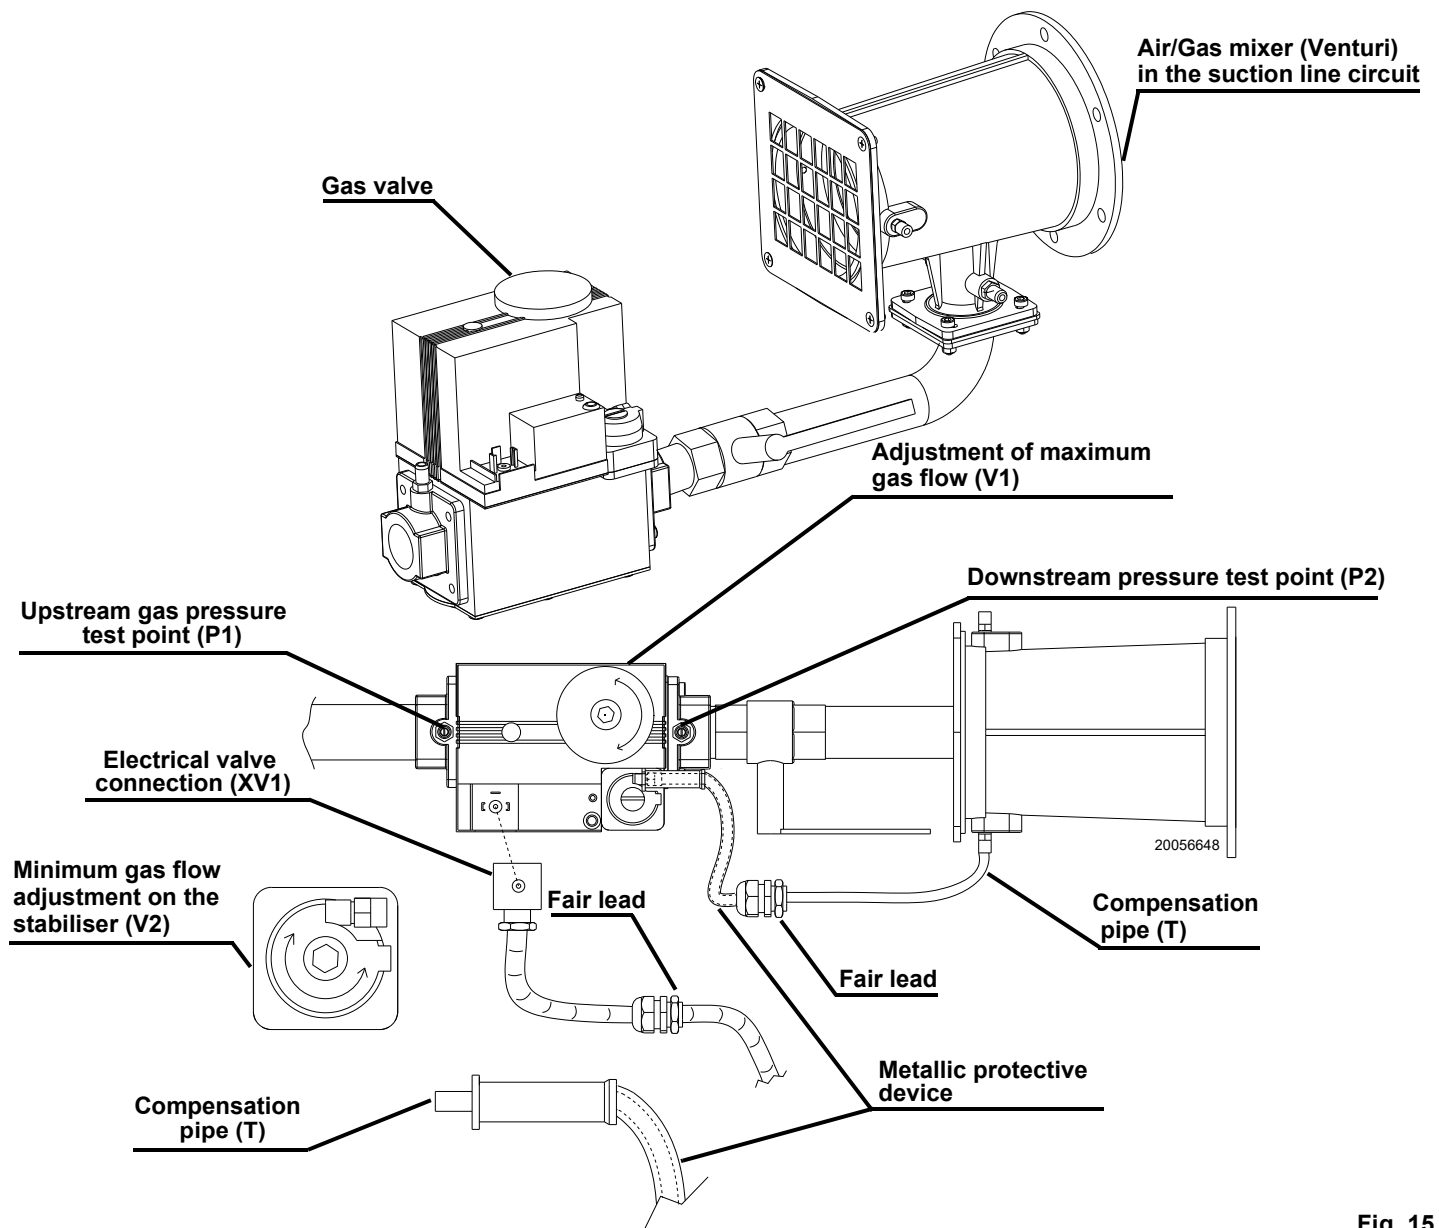

Fig. 15
- bleed the air from the gas pipes using the screw on the socket P1)(Fig. 15, page 21);